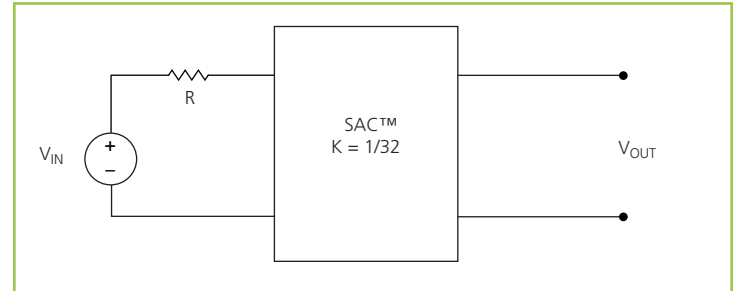

Figure 18 — $K = 1/32$ Sine Amplitude Converter™ with series input resistor
$R_{OUT} = 0 \Omega$ and $I_Q = 0 A$, Eq. (3) now becomes Eq. (1) and is essentially load independent. A resistor R is now placed in series with V_{IN} as shown in Figure 18.
Assuming that $R = 1 \Omega$, the effective R as seen from the secondary side is $0.98 \text{ m}\Omega$, with $K = 1/32$ as shown in Figure 18.